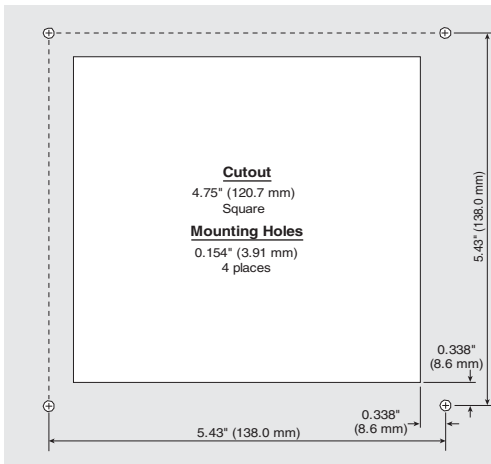

Fig. 7 LDU cutout with mounting holes.
2. Prepare area where the LDU will be mounted by cutting a 4.75" (120.7 mm) opening with 4 holes for #4 screws (see Figure 7).